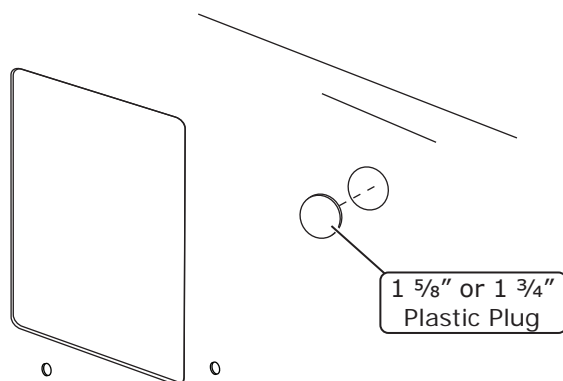

Figure 2
3. Install a 1 5/8" or 1 3/4" plastic plug into the firewall (See Figure 2, below).